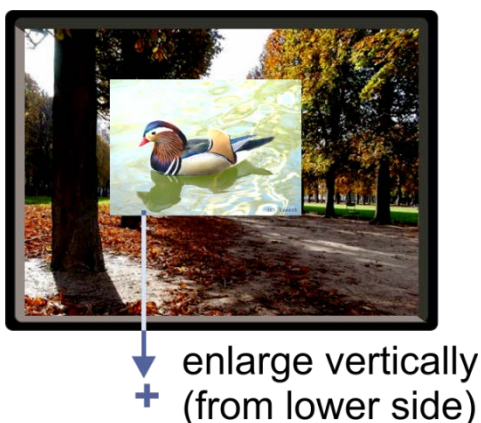

Figure 15: Increasing the Height
4. Select V Height (an OSD slide bar appears) and press + to increase the height, or – to decrease the height, see Figure 15.